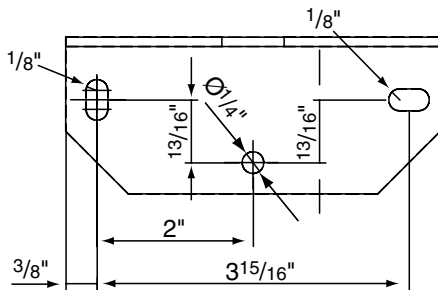

Figure 1
- ① Mark and drill holes in the wall (see Fig. 1).